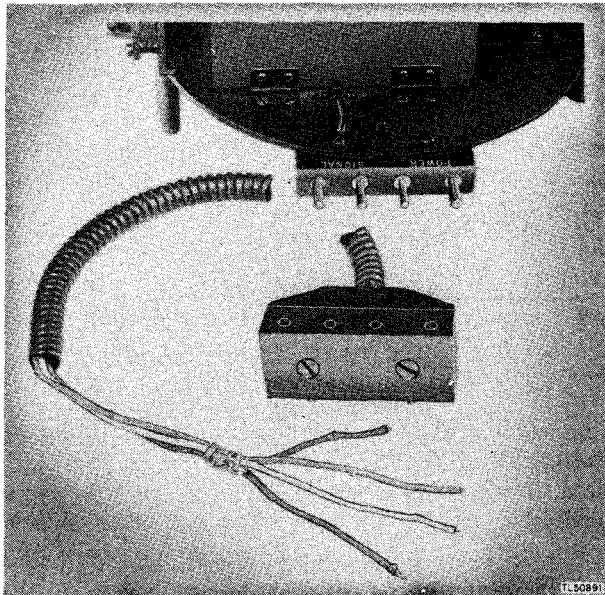

Figure 58. Power and signal connections to ink recorder.
**e.** A male plug with a nonreversible female receptacle for connection to the d-c supply for exciting the magnetic field and for connection to the signal current source (figs. 58 and 59).
The ink recorder, type 4-G, is shipped from the manufacturer complete and ready for installation. The recorder base has four mounting holes equally spaced on a  $6\frac{1}{2}$ -inch diameter circle. The holes will pass  $\frac{3}{16}$ -inch diameter screws for fastening the ink recorder to an operating table. Connect the blue and white leads of the nonreversible female receptacle (figs. 58 and 59) to the signal output terminals of the recorder driving unit. The blue lead is the positive side of the signal coil. Connect the red lead to the negative side and the black lead to the positive side of the d-c source for exciting the field. Connect the receptacle to the male plug on the back of the recorder.